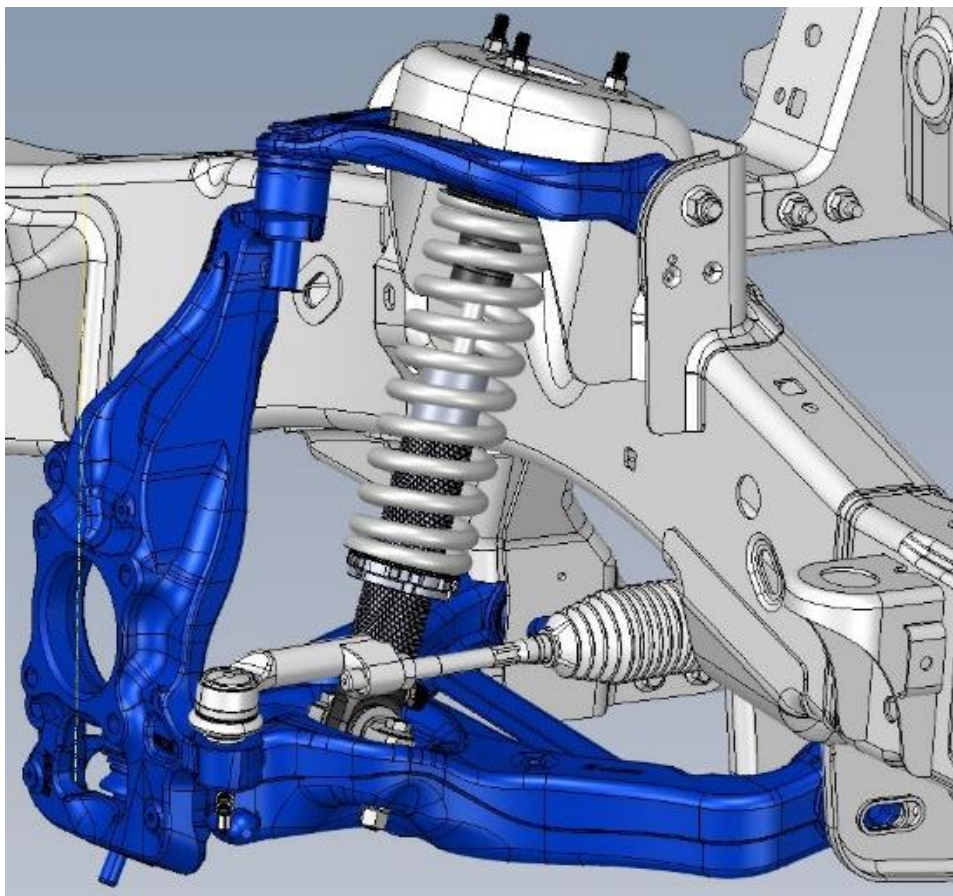

Figure 13
- 19) Adjust the spring seat collar up the threaded shock body to expose the correlating amount of threads per desired drop. **(Figure 13)** The adjustment collars will be close to the front axles on 4wd models but will gain clearance as the truck is set down and the suspension is compressed.